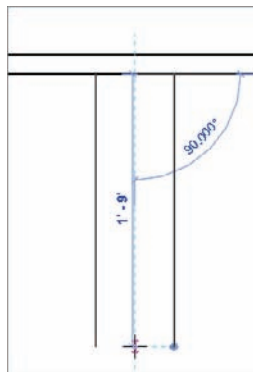

FIGURE 12.63 By setting an offset of 3", you can draw two lines using a common centerline.
11. For the first point of the line, pick the midpoint of the bottom line, as shown in Figure 12.63.
12. For the second point of the line, pick a point about 1'-9", straight down, as shown in Figure 12.63. (This draws a line offset 3" to the right from the center of the line above.)
14. Move your cursor down the view, but this time tap the spacebar to flip the line to the other direction (see Figure 12.63).
15. Draw another line of the same length (again, see Figure 12.63).